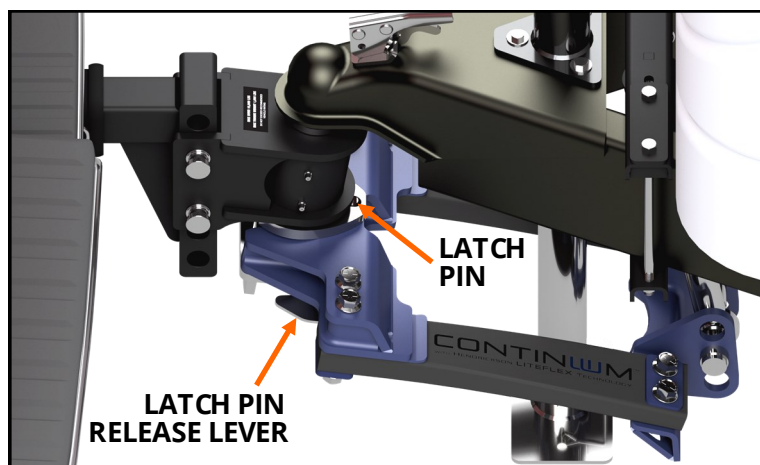

FIGURE K1: View of the driver side of A-frame.
3. **Disconnect the load bar assembly.** Retract the latch pin by pulling up on the latch pin release lever, **as shown in Figure K1**. Pull the load bar assembly out of the head unit. Place the load bar into the fork holder bracket.